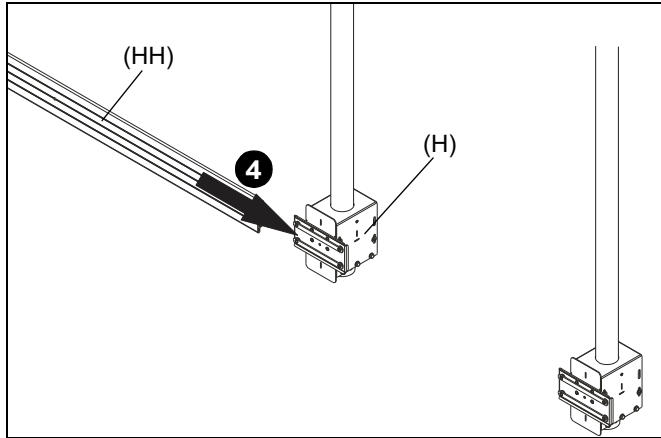

Figure 4
4. Slide 2 x 1 rail (HH) onto one of two assemblies (H) attached to column. (See Figure 4)